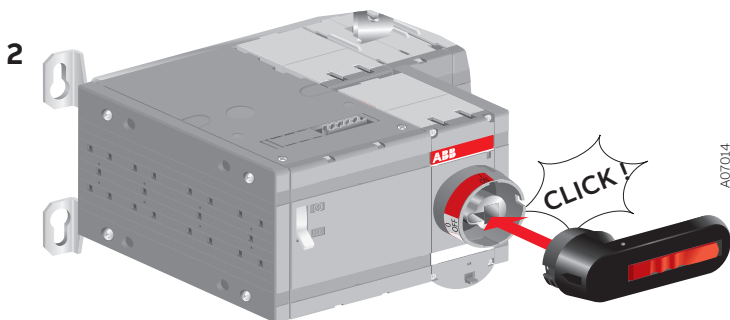

Figure 5.6 Attaching the handle
2. Attach the handle by pressing it to the switch panel until it clicks into place, see Figure 5.6. You can attach the handle in both positions (I or 0).